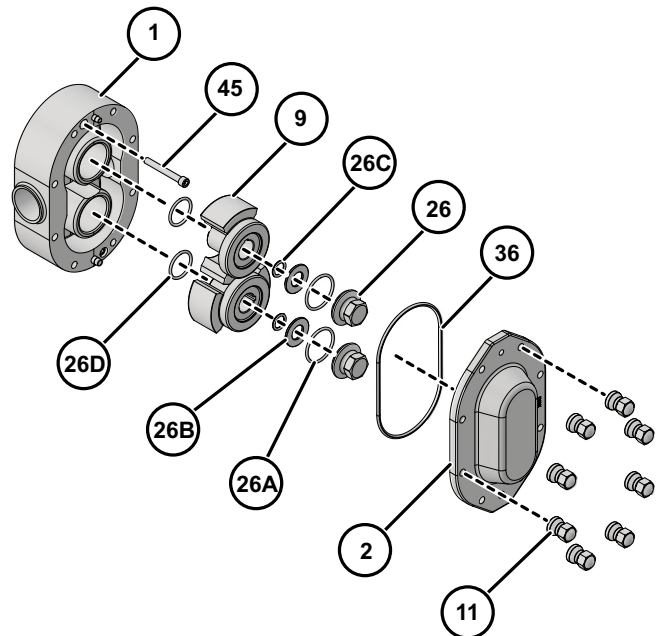
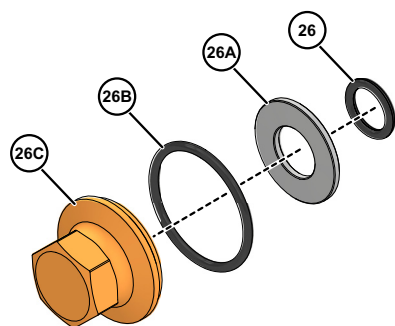
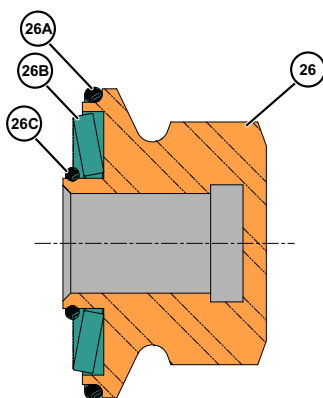

Figure 70 - Exploded View of Fluid Head
Figure 71 - Rotor Nut Assembly
Figure 72 - Cross-Section View of Rotor Nut Assembly, as Assembled
2. Install the body (Figure 70, item 1) to the gear case assembly, aligning the body with the body studs. Avoid damaging the seals as the body is drawn over the shafts.
3. Secure the body to the gear case using two cap screws (Figure 70, item 45).
1. Lubricate the rotor hub O-ring (Figure 70, item 26D) with a lubrication compound compatible with the O-ring material and process fluid(s).
2. Install new rotor hub O-rings (item 26D) into the groove on the rotor hubs.
3. Install the rotors (item 9) onto the shafts.
4. Align the keyways in the rotors with the keyways on the shafts and install the keys (item 26E).
NOTE: For rotor nut assembly detail, including orientation of the belleville-style washer (item 26B), see Figure 71 and Figure 72 on page 49.
See Figure 70 on page 48, and Figure 71 and Figure 72 on this page.
1. Clean the cover O-ring (See Figure 70 on page 48, item 36) and install it in the groove in the cover.
3. Install the cover (See Figure 70 on page 48, item 2) on the pump body.
5. Tighten the cover securely using the cover nuts (See Figure 70 on page 48, item 11) and Table 12.